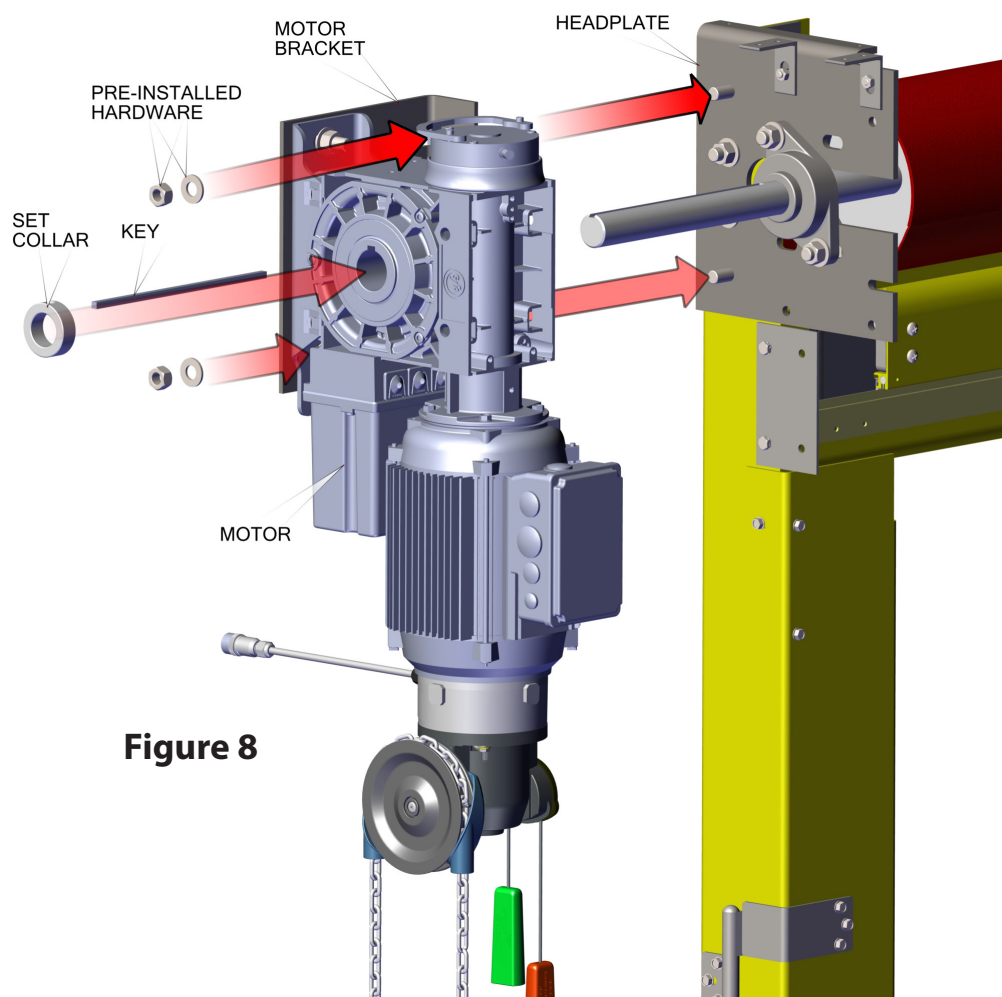
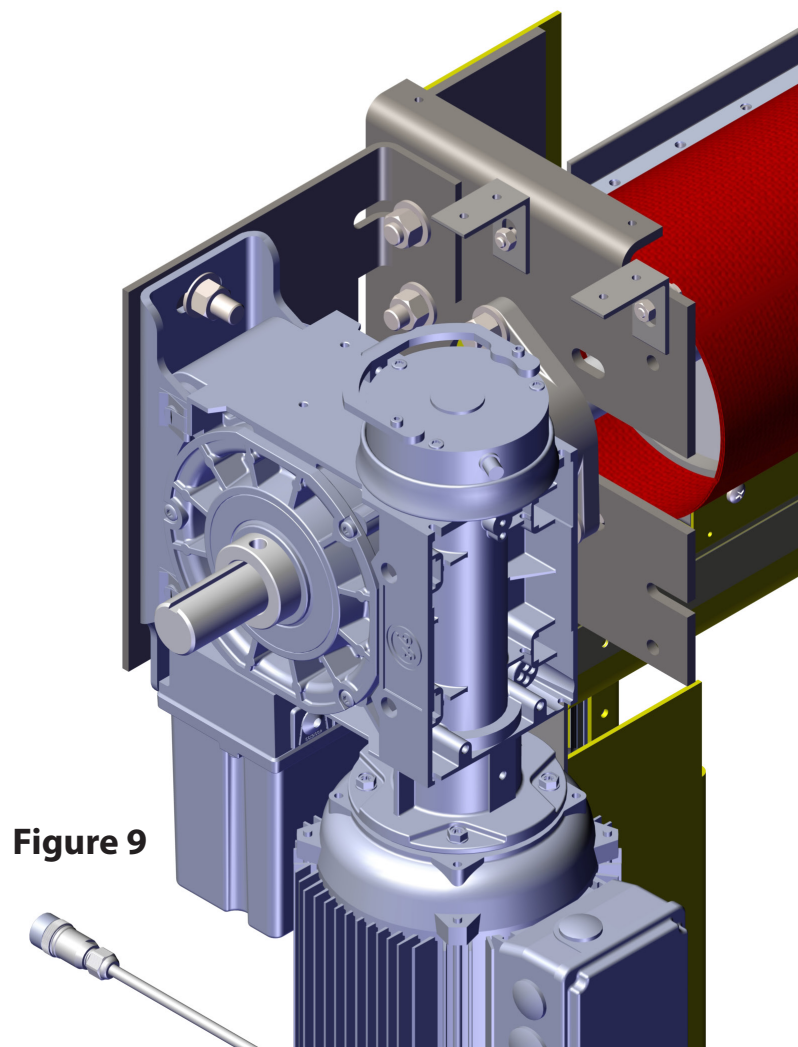

Figure 8
Figure 9
- Remove the pre-installed nuts and washers from headplates, as shown in Figure 8. ONLY remove the nuts and washers from the two bolts, as shown in Figure 8.
- Slide motor onto shaft, as shown in Figure 8.
- Insert the key into the keyway and the set collar onto the shaft up against the operator. Tighten set screw in the set collar, as shown in Figure 8 and Figure 9.